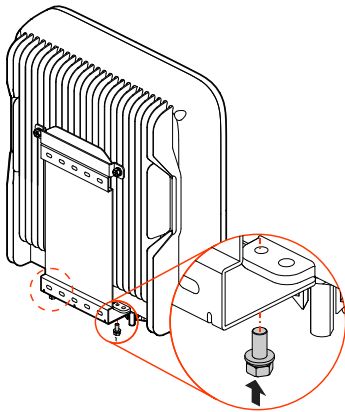
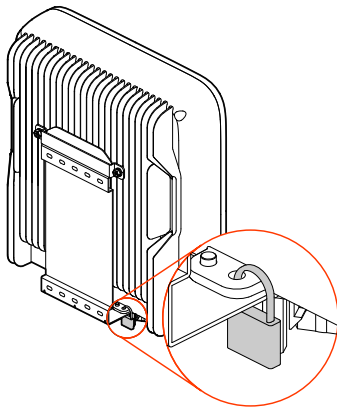

Figure3-11 Fasten the inverter
Figure3-12 Position of lock
Step 6 Fasten the inverter to the installation holder by 2 stainless steel combination bolt M5\*12 (as shown in Figure3-11), and then lock it. The lock position is as shown in Figure3-12.